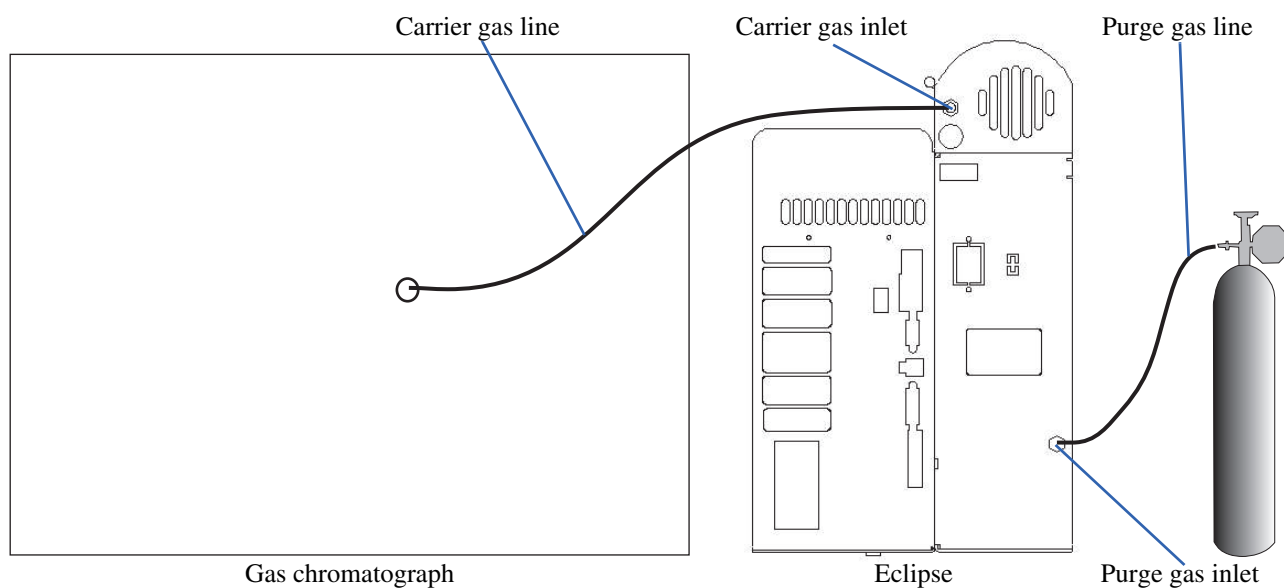

Figure 3.22. Connecting the gas lines
1. Connect the Q/i" purge gas line (PN 111427) between the purge gas source and the receptacle marked "Purge Gas Inlet" on the Eclipse back. Use the standard Q/i" stainless steel Valco® nut and ferrule provided or use the Swagelok® nut (PN 128108) and ferrule (PN 128082) in the Eclipse startup kit (Figure 3.22).